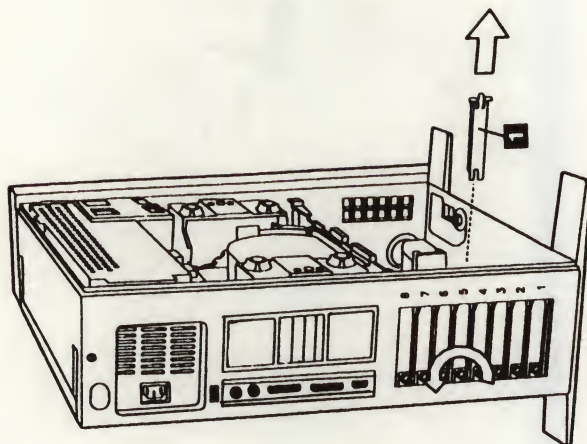

Figure 3-21 Removing a Slot Cover from the Model 60
15. Locate a vacant expansion slot. Loosen the thumb screw securing its slot cover, and remove the slot cover as shown in Figure 3-21.